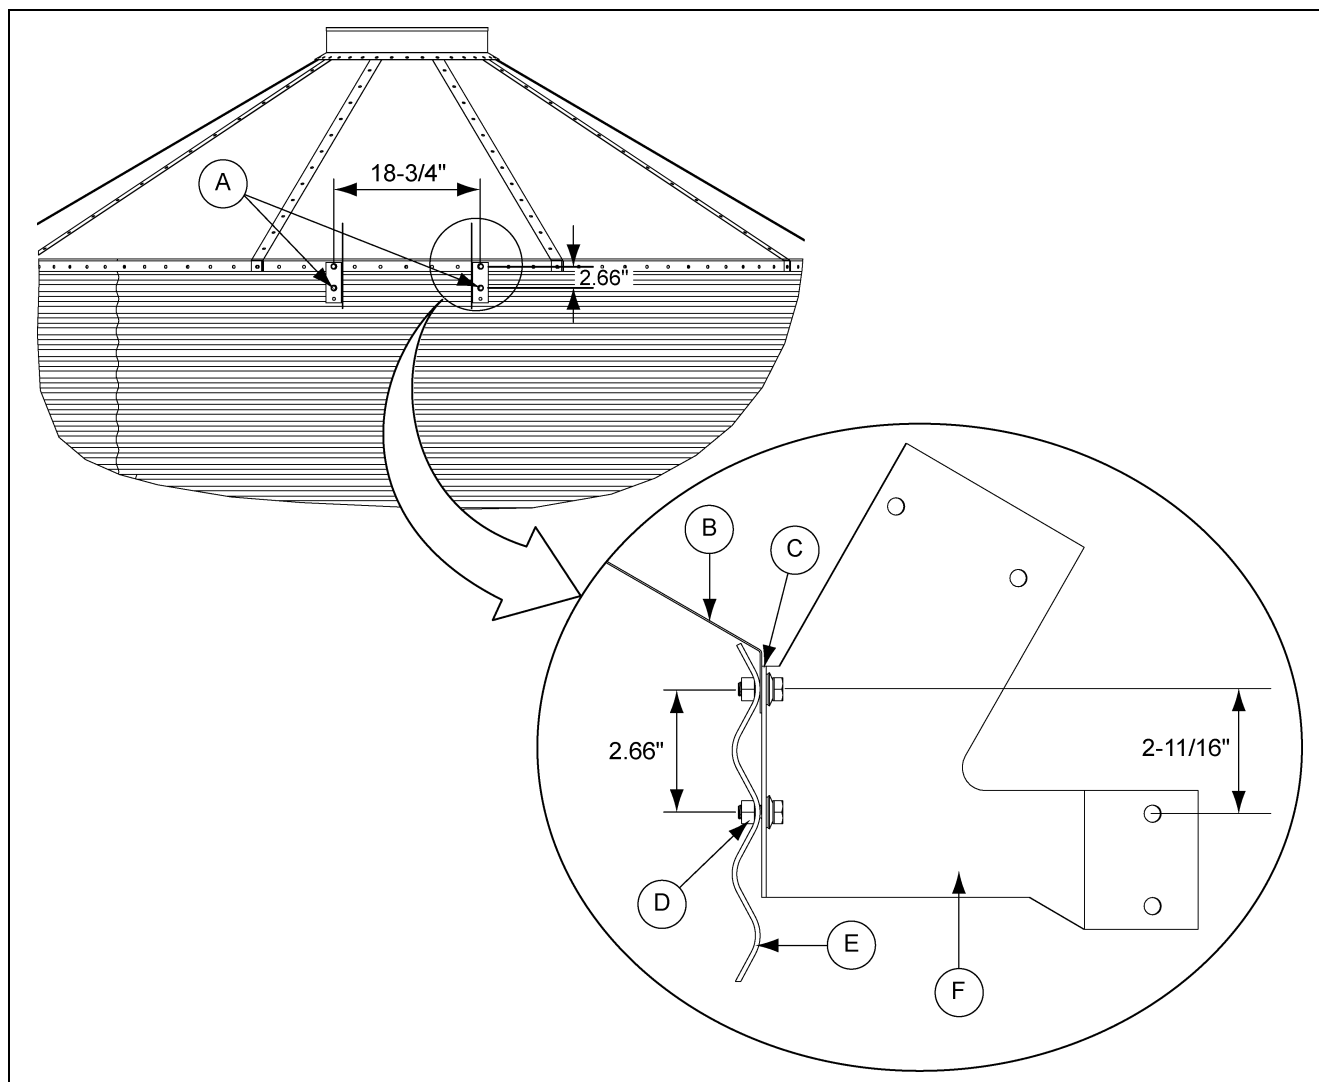

Figure 8B
The starter brackets must be centered in the roof sheet to ensure proper installation of the roof ladder support brackets. Before the starter brackets can be installed, two (2) 3/8" holes must be drilled. The holes must be 2.66" below and directly in line with the top row of pre-punched horizontal holes 18-3/4" apart. Refer to Figure 8B for additional clarification of hole locations. Use 5/16" and 3/4" bin bolts for connections.